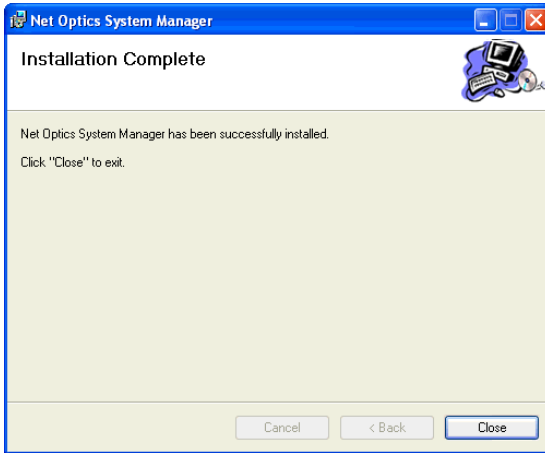

Figure 25: Installation Complete
6. If you want to stop the installation, click **Cancel**. When the installation is complete, the Installation Complete dialog box appears as shown in Figure 25.